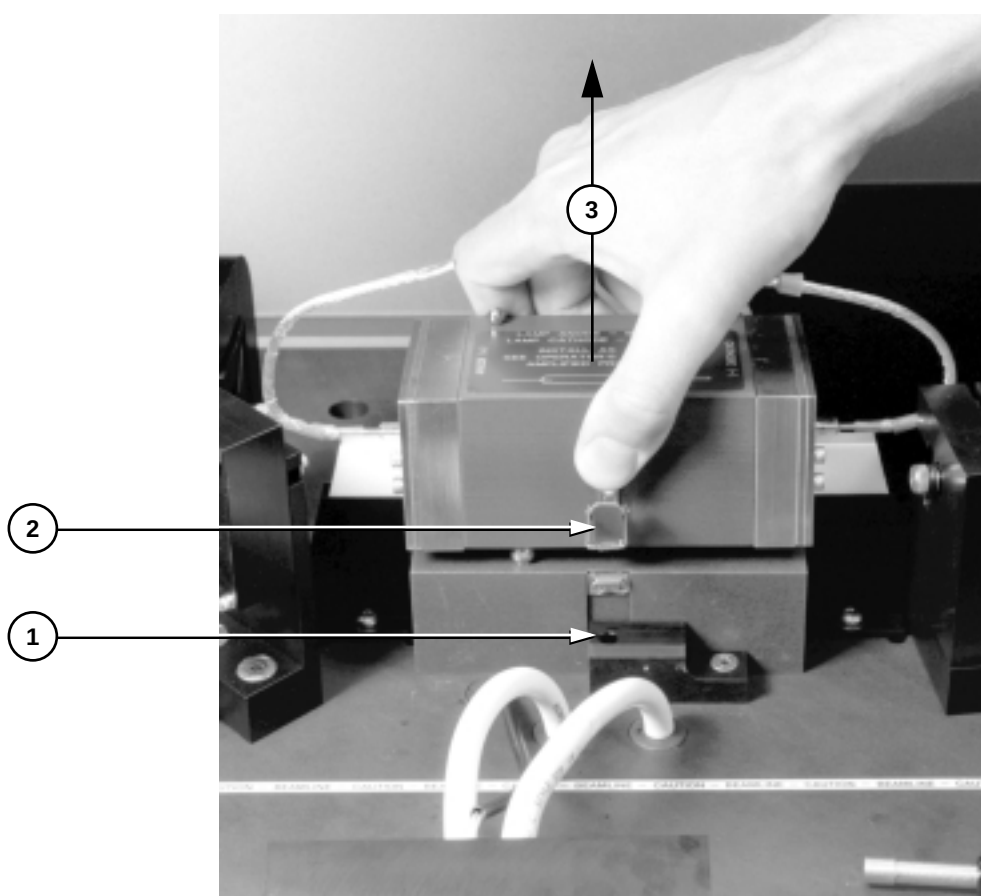

Figure 6-7. Dowel Pins Removed and Latches Released.
6. Remove the two vertical dowel pins, 1 in Figure 6-7, release the latches holding the POT, 2 in Figure 6-7, tilt it sideways a few degrees to drain the water out of it and then lift the POT out of the laser, 3 in Figure 6-7.